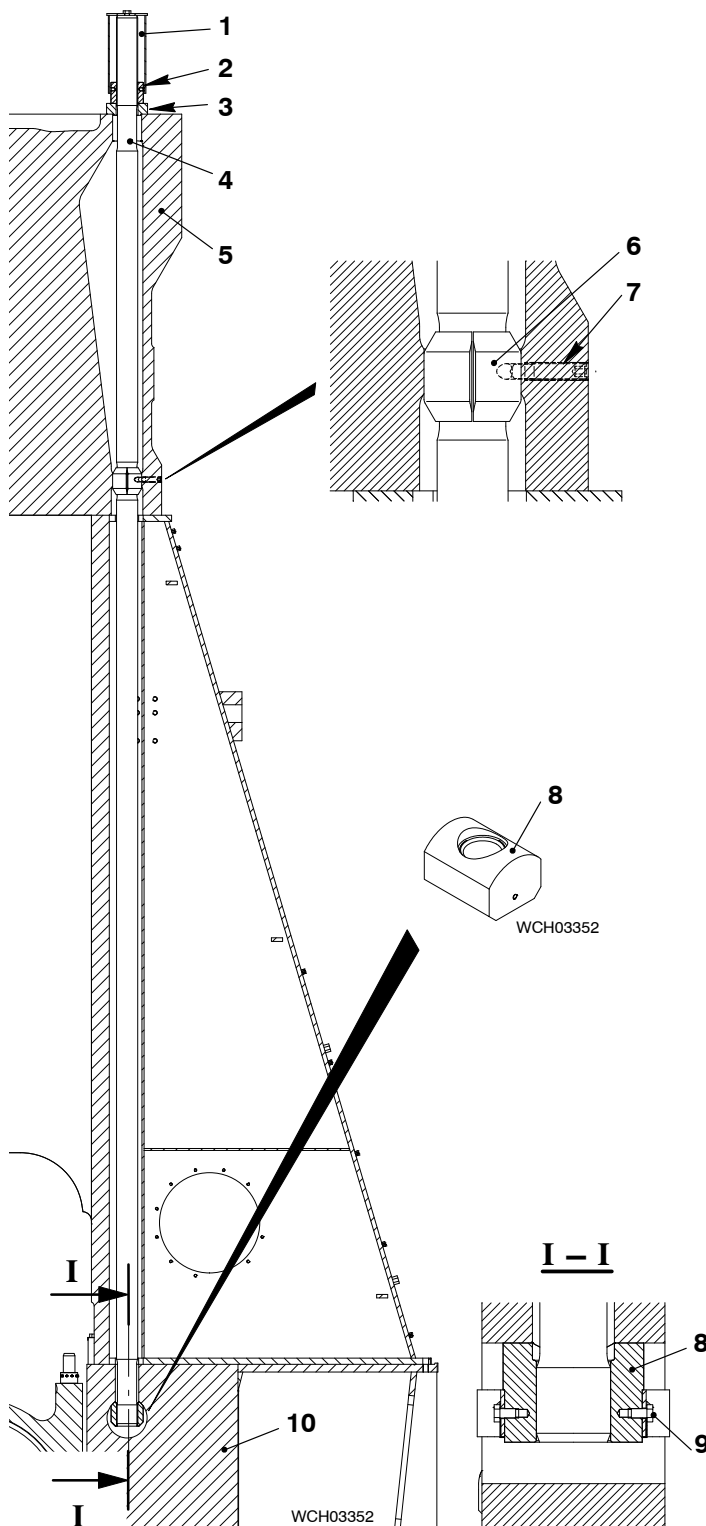

Fig. 2
- 1) Remove the cover (1, Fig. 2) from all tie rods.
- 2) Clean the surface of the intermediate ring (3).